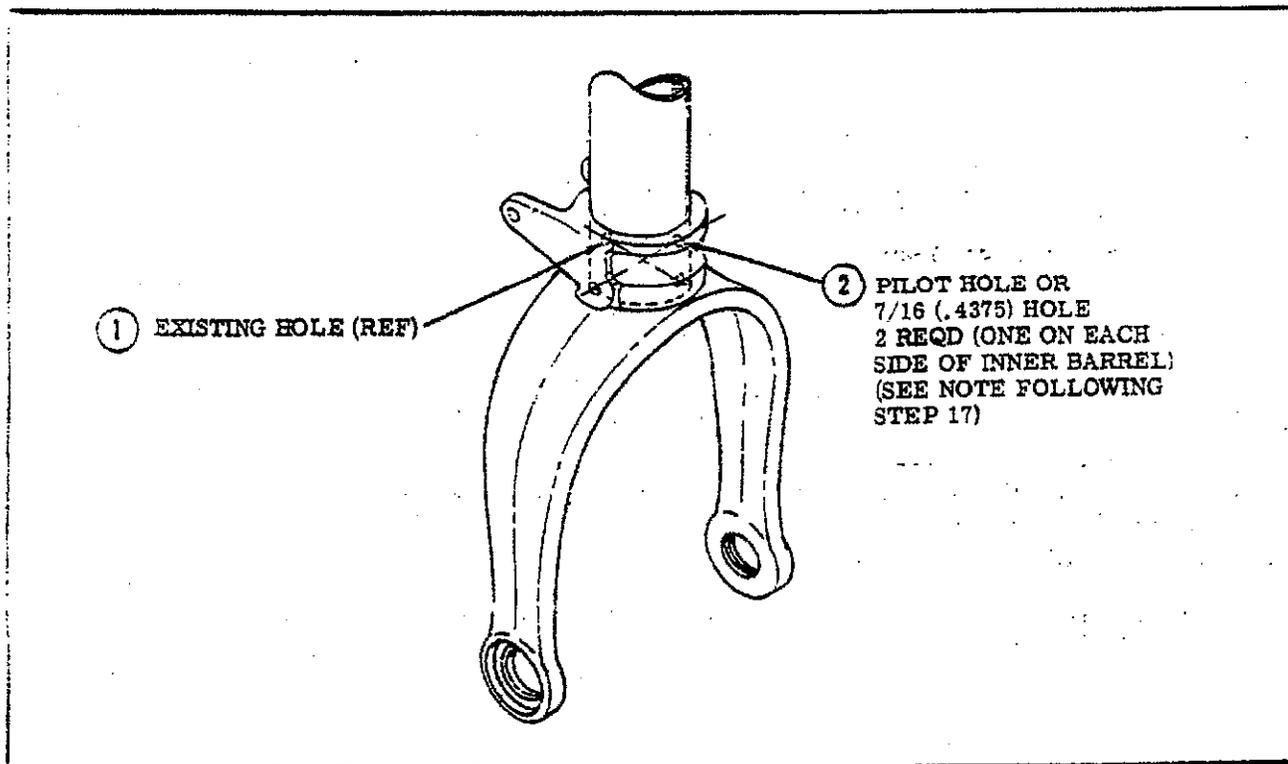

Figure 2. New Hole Locations on Inner Barrel
- (13) Ream fork (13) to press fit with .0005 to .0025 interference.
- (14) Rotate inner barrel 90° from its original position, with the original holes fore and aft.
- (15) Press fork on inner barrel so that the top of the fork aligns with the pencil line previously scribed on the inner barrel.
- (16) With the fork properly positioned, drill pilot holes (2, figure 2) on either side of the barrel using the holes in the fork as a guide.